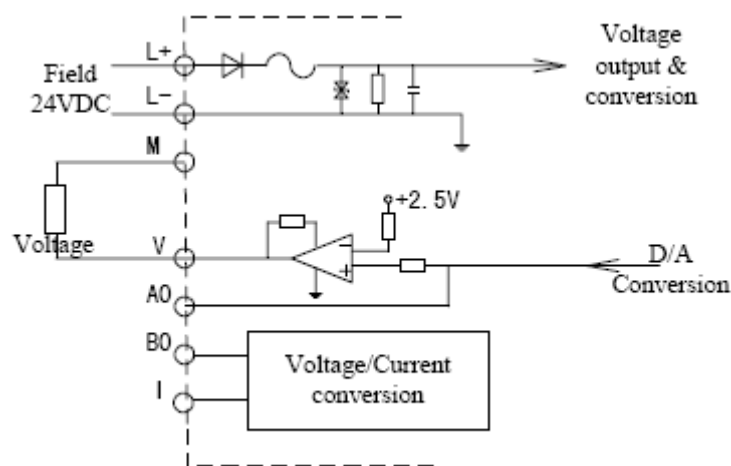
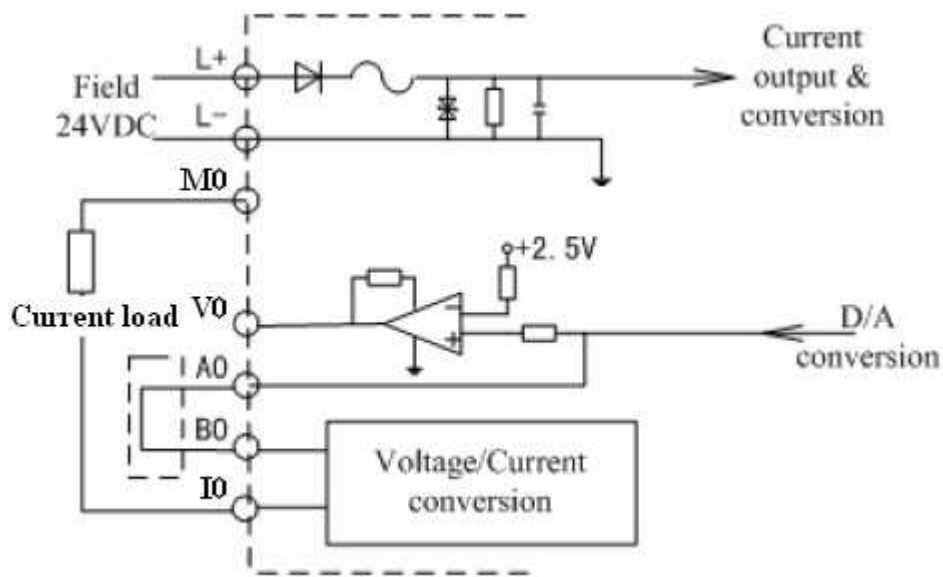

Figure 3-2-28 LM3320 Voltage Output Channel Equivalent Circuit
Figure 3-2-29 LM3320 Current Output Channel Equivalent Circuit
Output channel (AO) (voltage output signal) equivalent circuit is shown in Figure 3-2-28.
Output channel (AO) (current output signal) equivalent circuit is shown in Figure 3-2-29.
- Output channel (AO) equivalent circuit of LM3330 is the same as LM3320, please refer to Figure 3-2-28 and Figure 3-2-29;